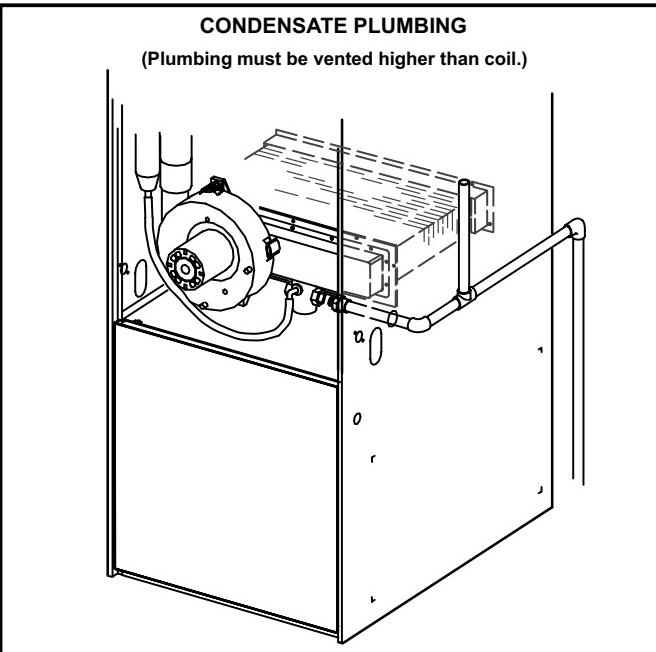

FIGURE 35
- 5 - Connect field supplied plumbing to nipple and route to open drain. Plumbing should be vented to a point higher than the condensing coil. See figure 35.